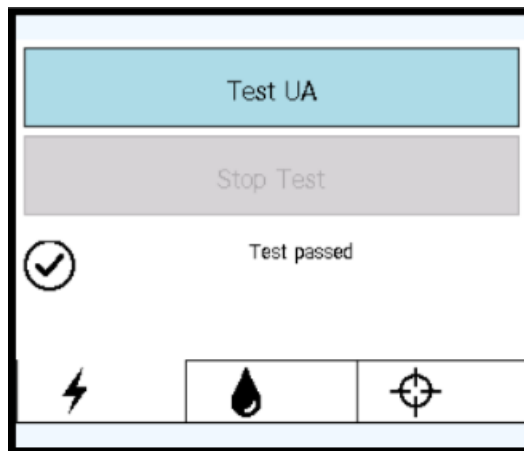
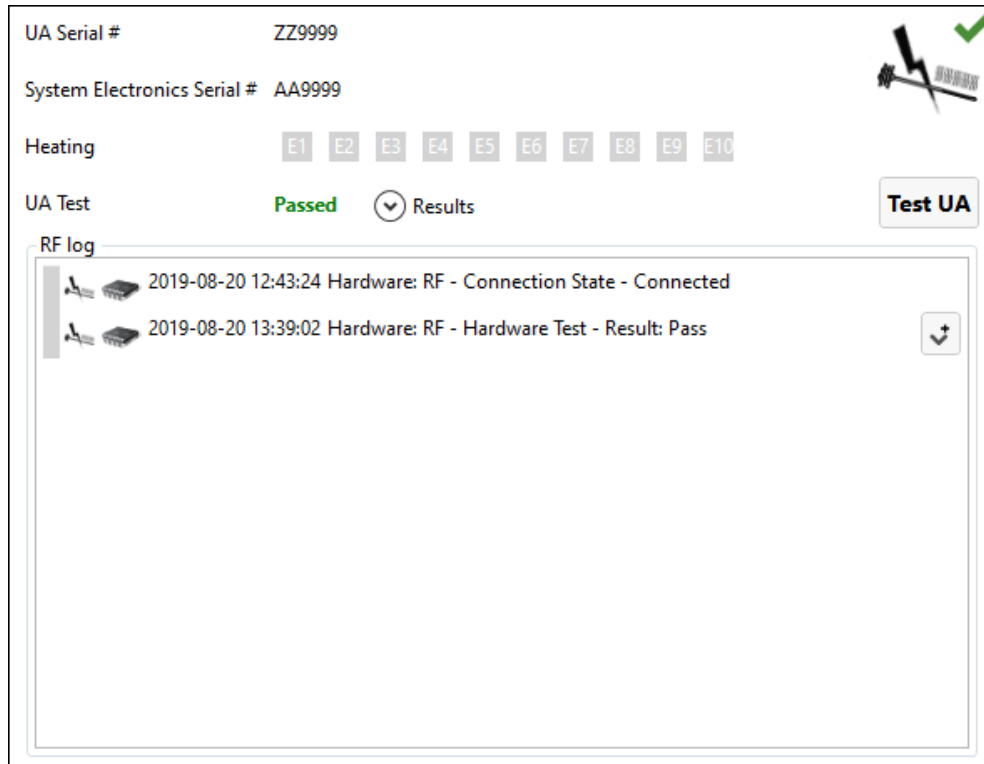

Figure 16: RF tab on PSIB display after successful RF connectivity test
Figure 17: RF information box in Setup workspace after successful RF connectivity test
3. In the **RF** tab ⚡ of the PSIB display, click **Test UA** (Figure 16).
The system will send a short burst of power to each of the ten UA elements to ensure continuity and functionality of all ten channels. This can also be done from the TDC Setup workspace from the RF information box in the top-right quadrant (Figure 17).
When the RF connectivity test is complete, the PSIB will display a short message (Figure 16). You can see detailed RF connectivity test results in the RF information box of the TDC software (Figure 17).